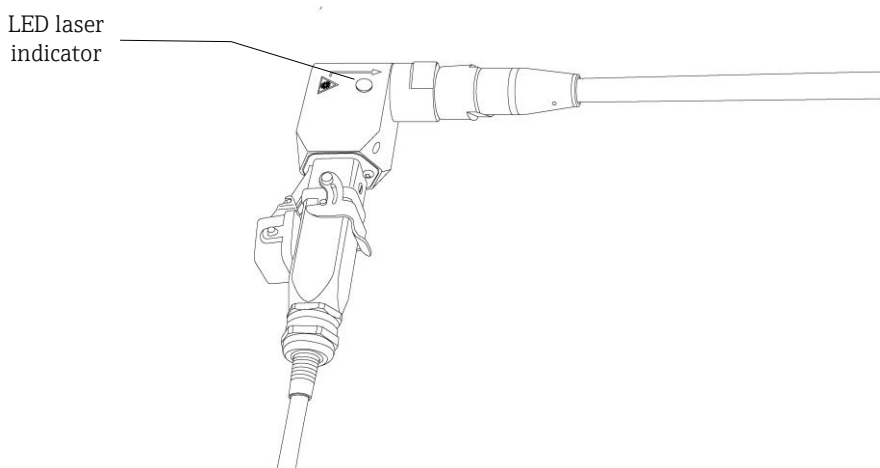

Figure 1. LED laser indicator on right-angle EO fiber connector
- Non-removable right-angle EO fiber connector (Figure 1): The indicator is located on the assembly. When there is potential for the laser to be energized, the indicator light is illuminated.